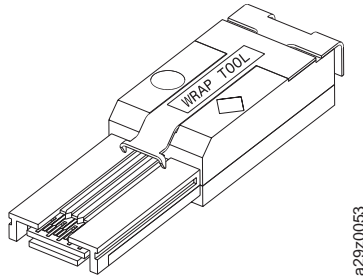

Figure 78. SAS wrap tool
- **SAS Wrap Test** - Runs tests on the SAS interface SCSI controller. Remove the SAS cable from the library and insert the SAS wrap tool (see Figure 78 on page 75) into the SAS host connector. Start the SAS wrap test. If the wrap test fails, contact your next level of support.